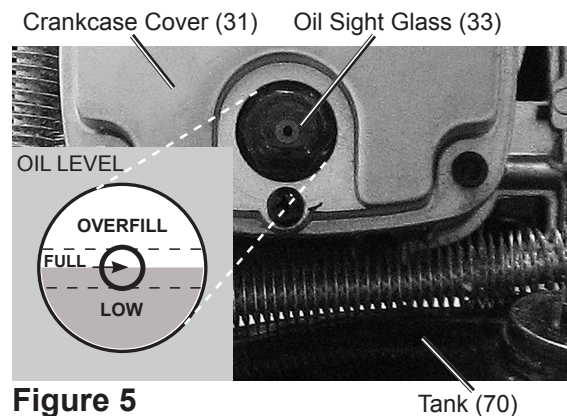

Figure 5
2. The oil level should be at the center of the "full" level on the oil level sight glass, as shown in Figure 5. Add oil as needed to maintain this level. Do not let the oil level go below the center dot (LOW as shown above) and do not overfill the oil so that it is above the center dot (OVERFILL as shown above) on the sight glass.
- a. Remove the Oil Plug (37).
- b. Using a funnel to avoid spills, pour enough oil into the Pump Crankcase (39) to reach the "full" level in the Oil Sight Glass (33).